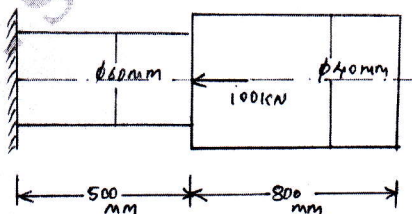

Fig. Q3 (b)
- b. For the axially loaded bar shown in Fig. Q3 (b). Determine nodal displacement and stress in each element. Given  $E_{\text{steel}} = 2 \times 10^5 \text{ MPa}$ ,  $E_{\text{cu}} = 1 \times 10^5 \text{ MPa}$